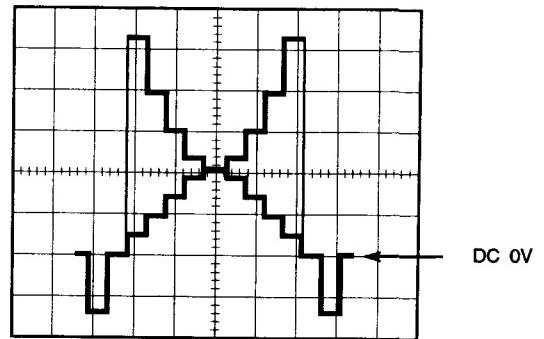

Fig. 5-1-21
- Adjust VR501 so that the Black portion of the Video signal becomes 0 V DC (Ground level) as shown in Fig. 5-1-21.
- Adjust VR601 so that the Black portion of the Video signal becomes 0 V DC (Ground level) as shown in Fig. 5-1-21.
- Adjust VR701 so that the Black portion of the Video signal becomes 0 V DC (Ground level) as shown in Fig. 5-1-21.
(12) Preamp Frequency Response Adjustment